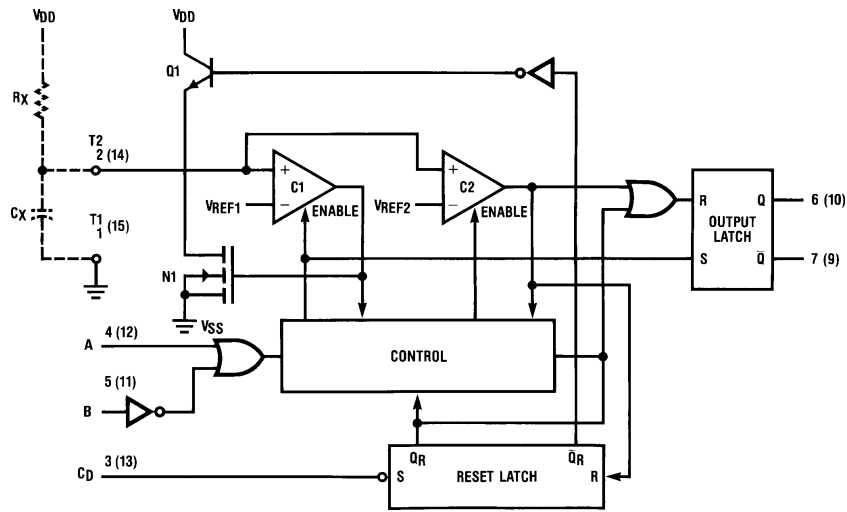

FIGURE 1
The block diagram of the CD4538B is shown in Figure 1, with circuit operation following.
As shown in Figures 1 and 2, before an input trigger occurs, the monostable is in the quiescent state with the Q output low, and the timing capacitor  $C_X$  completely charged to  $V_{DD}$ . When the trigger input A goes from  $V_{SS}$  to  $V_{DD}$  (while inputs B and  $C_D$  are held to  $V_{DD}$ ) a valid trigger is recognized, which turns on comparator C1 and N-Channel transistor N1①. At the same time the output latch is set. With transistor N1 on, the capacitor  $C_X$  rapidly discharges toward  $V_{SS}$  until  $V_{REF1}$  is reached. At this point the output of comparator C1 changes state and transistor N1 turns off. Comparator C1 then turns off while at the same time comparator C2 turns on. With transistor N1 off, the capacitor  $C_X$  begins to charge through the timing resistor,  $R_X$ , toward  $V_{DD}$ . When the voltage across  $C_X$  equals  $V_{REF2}$ , comparator C2 changes state causing the output latch to reset (Q goes low) while at the same time disabling comparator C2. This ends the timing cycle with the monostable in the quiescent state, waiting for the next trigger.